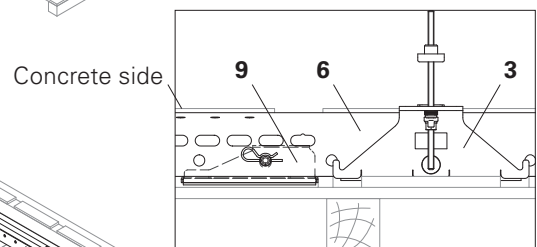

Fig. B1.09a
5. Mount Support Plates VD (9) in the fourth hole of the Steel Waler SRU U120 (6) using 1x Fitting Pin $\varnothing 21 \times 120$ (48) in each case, and secure with Cotter Pins 4/1 (47). (Fig. B1.09a)